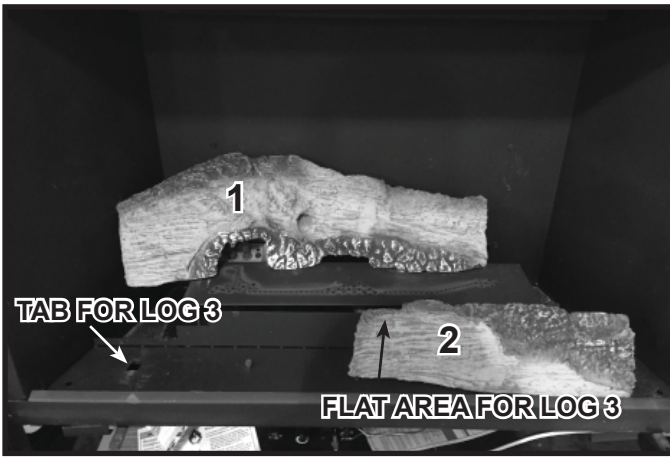
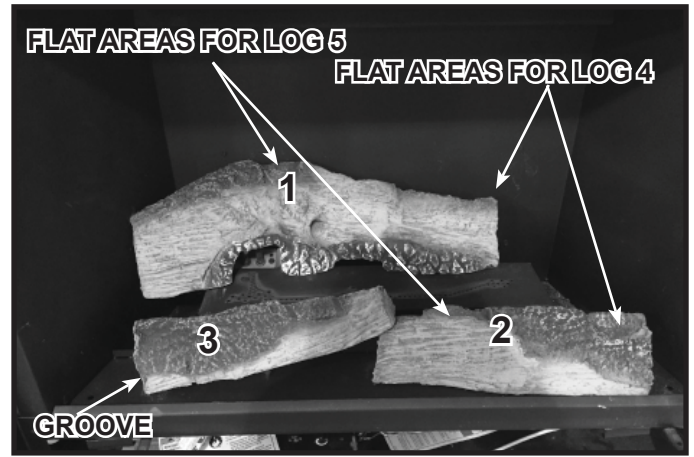

Figure 5.
Figure 6.
**Log #2 (SRV2401-702):** Locate the hole on the bottom side of Log 2 and the shoulder screw marked “2” in Figure 3. Place the hole onto the shoulder screw as shown in Figure 5. Push the left side of Log 2 back until it contacts the back of the basepan.
**Log #3 (SRV2401-703):** Locate the groove on the left side of Log 3. Place the log on the tab that was bent up in Step 1 and set the right side of the log on top of the flat area on Log 2. Refer to Figure 5 for tab and flat area. Figure 6 shows Log 3 placed correctly.
**Log #6 (SRV2397-705):** Locate the flat areas on Log 1 and Log 2, highlighted in Figure 6. Place log 6 onto the flat area of Log 2 with the bark facing the front of the appliance. Rest the back of Log 6 onto the flat spot on the far right of Log 1. Log 6 will rest against the back of the appliance.